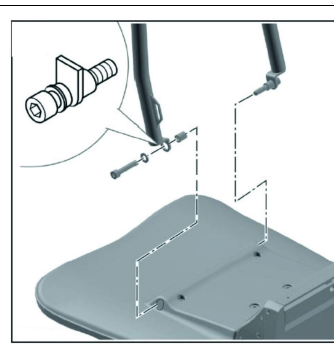

Fig. 19
4. Attach the support feet by using the included screws and nuts. (Fig. 19)